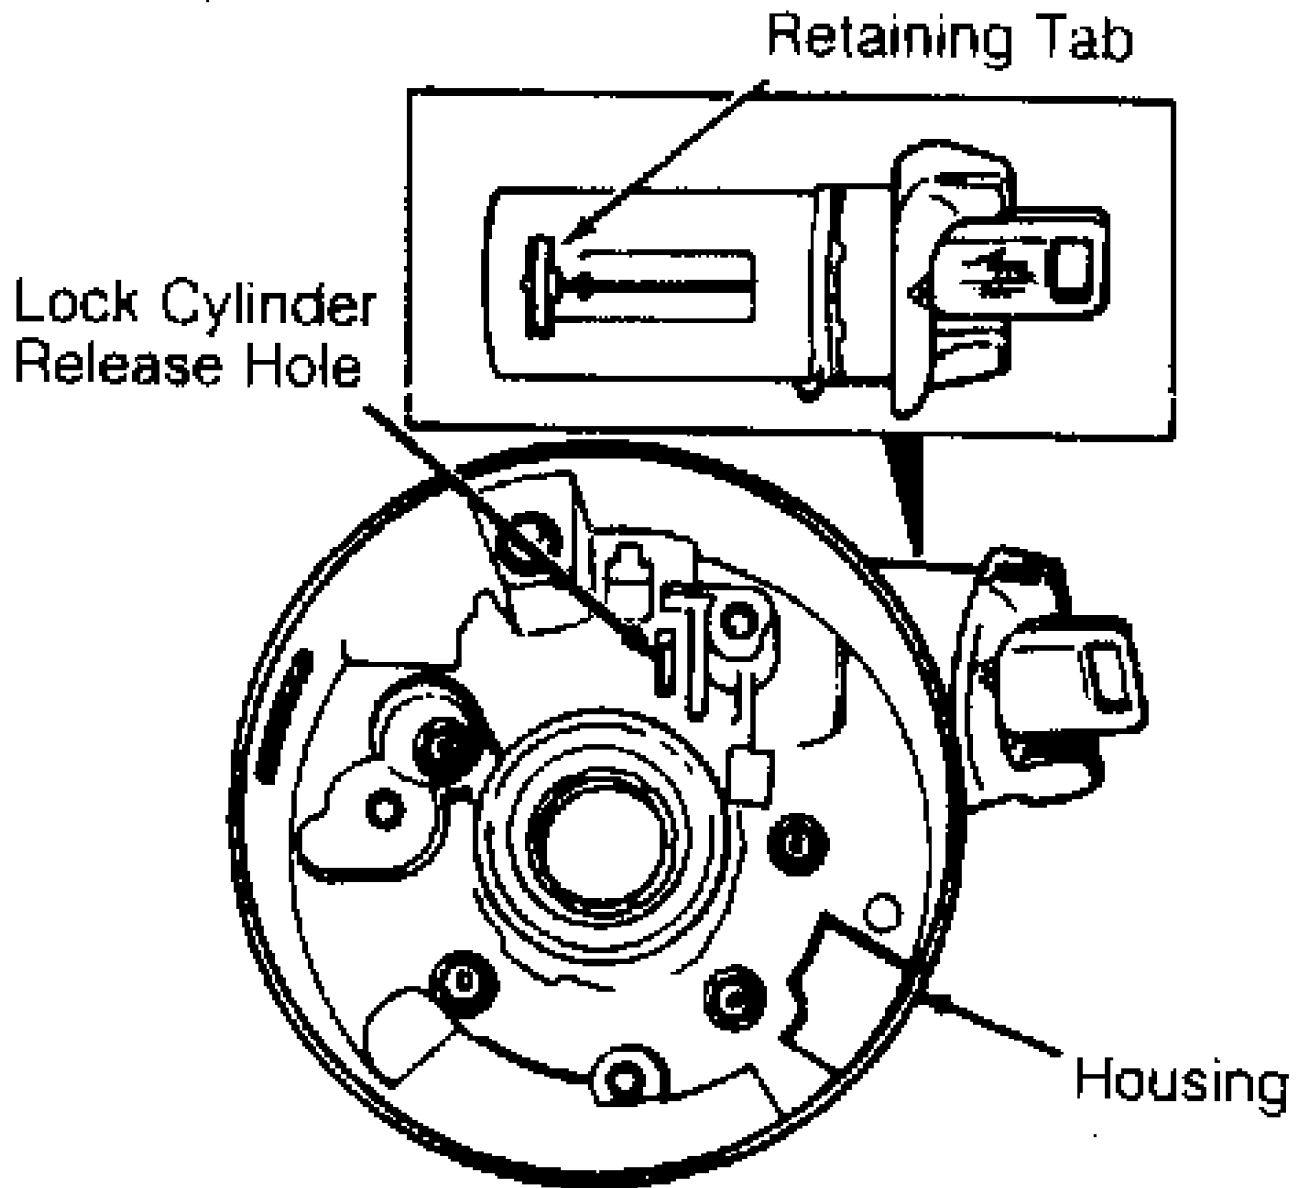

Fig. 1: Removing Jeep Lock Cylinder
2) On models with standard column, turn ignition lock cylinder (clockwise) 2 detent positions beyond the "OFF/LOCK" position. On models with tilt column, turn lock cylinder to "LOCK" position. On all models, compress lock cylinder retaining tab and remove lock cylinder from housing. See Fig. 1.